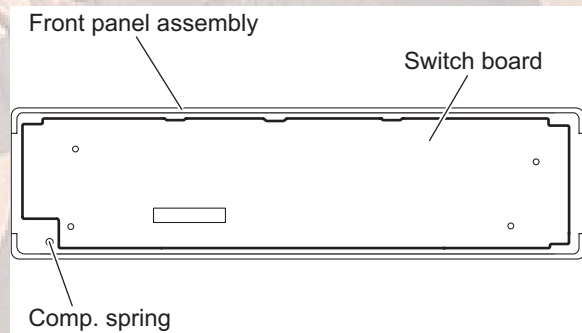

Fig.17
- (3) Take out the switch board from the front panel assembly. (See Fig.17)
When removing the rear cover assembly and front board, be careful not to lose the comp. spring. (See Fig.17)